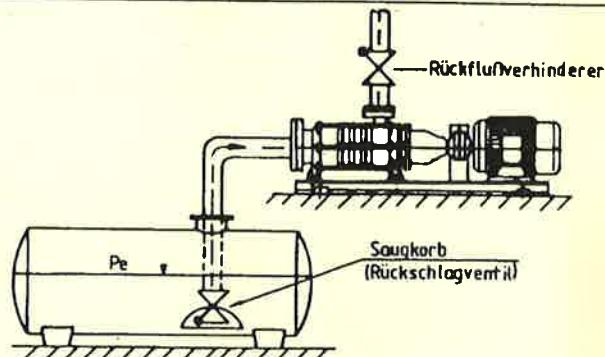

Fig. 5.1
In order to guarantee cavitation-free operation, the instructions in Section 5.4 Inlet conditions must be followed. The inlet pipe can be laid in any form. It may pass over the pump since the liquid can also be sucked over the top. The cross-section of the inlet pipe must not be smaller than the pump's suction pipe socket. Every effort should be made to achieve a flow speed of 1 m/sec in the suction pipe. Under particularly difficult pumping conditions, we also recommend providing a calming section on the suction side, upstream of the entry to the pump. The length of this calming section should be 10 x the pipe diameter. In suction mode, the suction strainer should be at least 0.2 m below the lowest level of the liquid (see fig. 5.1).
A constant cross-section of the pipes is also desirable on the discharge side. For a large pump head and long discharge pipes, it is sensible to fit a gently closing non-return element on the discharge side (non-return valve) (see fig. 5.1 + 5.2).
The inlet and discharge sides of the pump should each be equipped with a manometer or manometer. In order to be able to maintain the pump head precisely (see rating plate), a regulating valve should be provided on the discharge side. For larger pump heads (> 20 m), long pipes, parallel operation and system counter-pressure, a non-return valve (R) should be installed on the discharge side in order to prevent back-flow through the pump when the unit is switched off (see fig. 5.1 + 5.2).